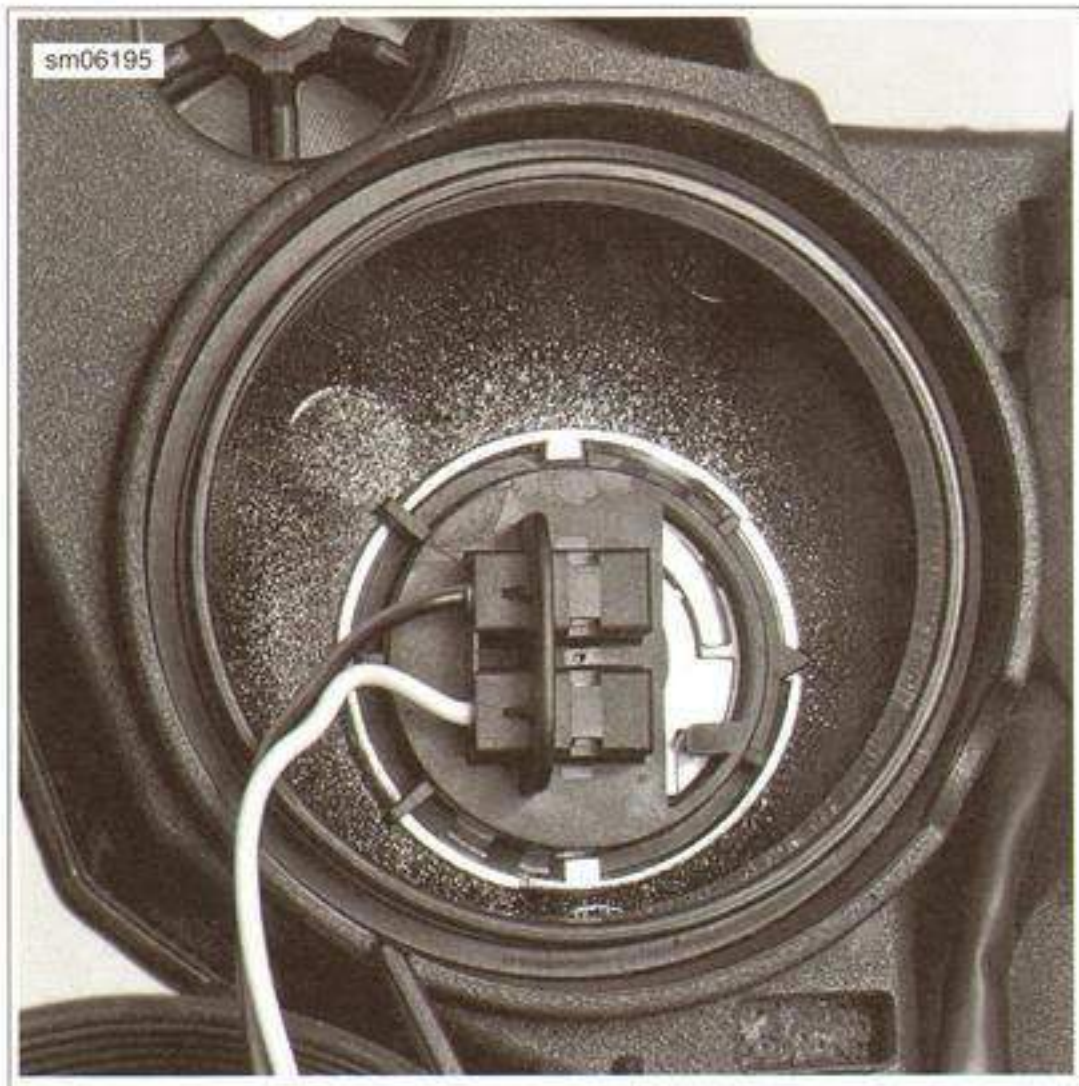

Figure 7-54. LH Headlamp Bulb Socket
3. See Figure 7-54. Turn the bulb receptacle counterclockwise to remove.